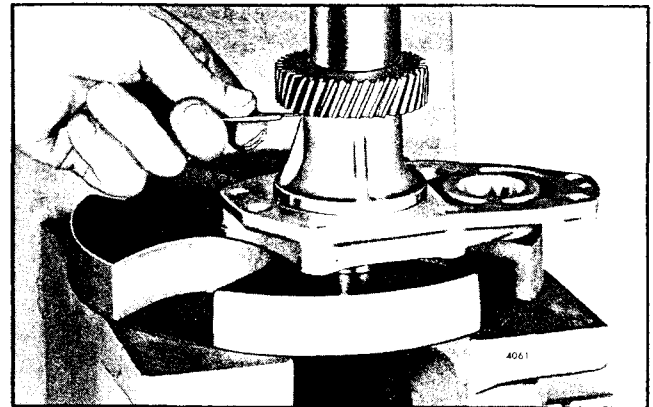

Fig. 18 - Installing Blower Drive Gear on Shaft
4. Install the key in the shaft, then place the blower drive support on an arbor press. Lubricate the inner diameter of the blower drive gear and start it straight on the shaft, with the keyway in the gear aligned with the key in the shaft. Place a spacer over the gear and press the gear on the shaft until a .005" feeler gage may just be withdrawn (Fig. 18).